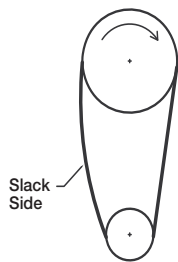

Figure 12a
- Sizes 071-161:** Belts should be tensioned just enough to prevent slippage at full load. Belts should have a slight bow on the slack side while running at full load, see Figure 12a.